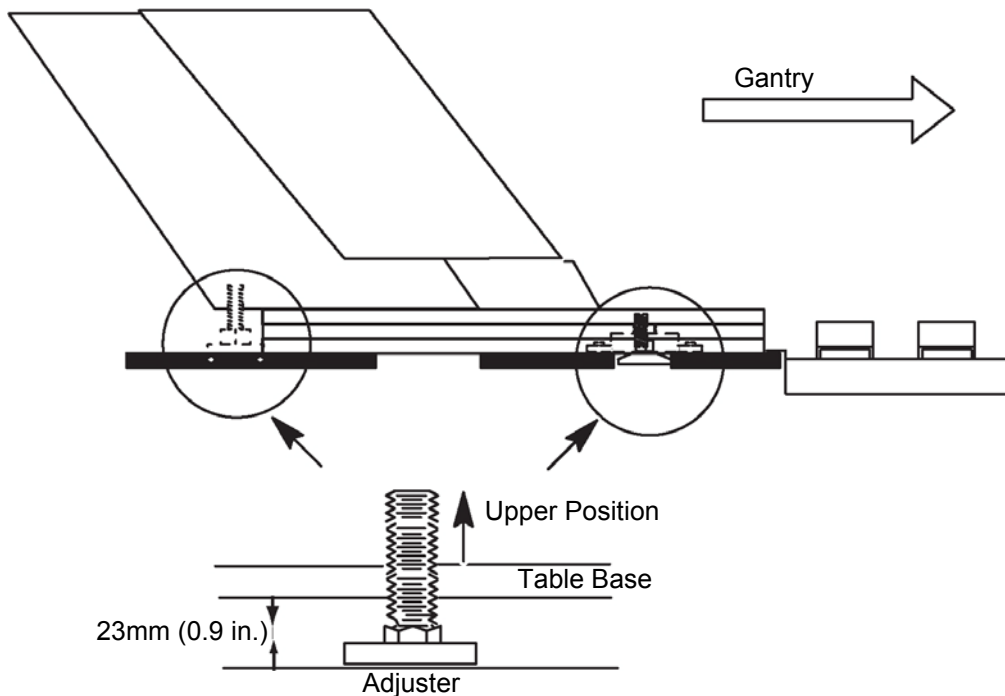

Figure 1-41 Setting the Adjusters
- 4.) Preset leveling pad heights to 20mm, see Figure 1-41.